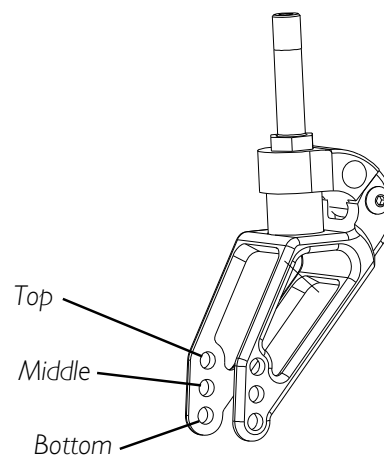

FIGURE 12 - FRONT SEAT-TO-FLOOR HEIGHT ADJUSTMENT
FRONT SEAT-TO-FLOOR HEIGHT ADJUSTMENT (FIGURE 12)
- Refer to FIGURE 12 and the charts on the following pages to determine available front seat-to-floor heights for each wheelchair frame size.